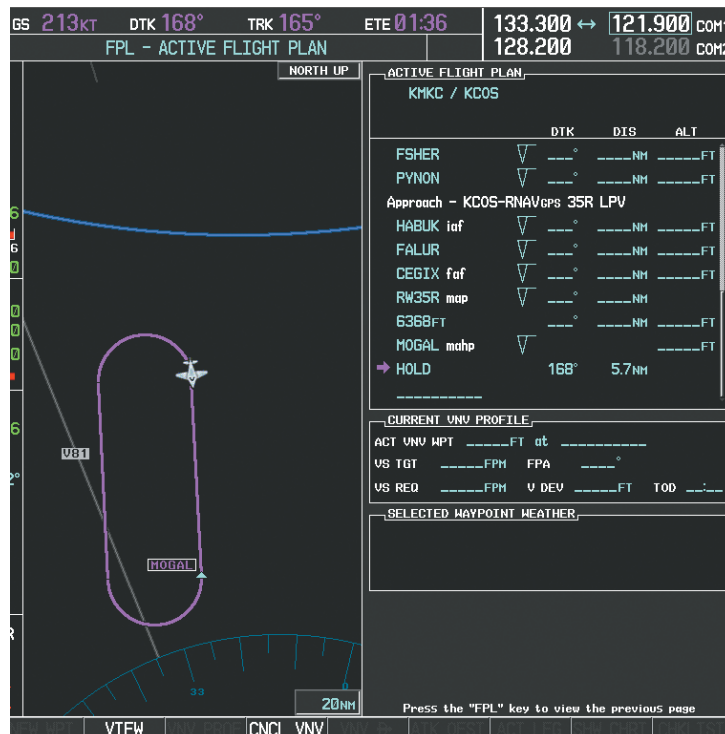

Figure 5-153 Hold Established
- 27) The aircraft maintains 10,000 feet while following the magenta line through the hold as in Figure 5-153.